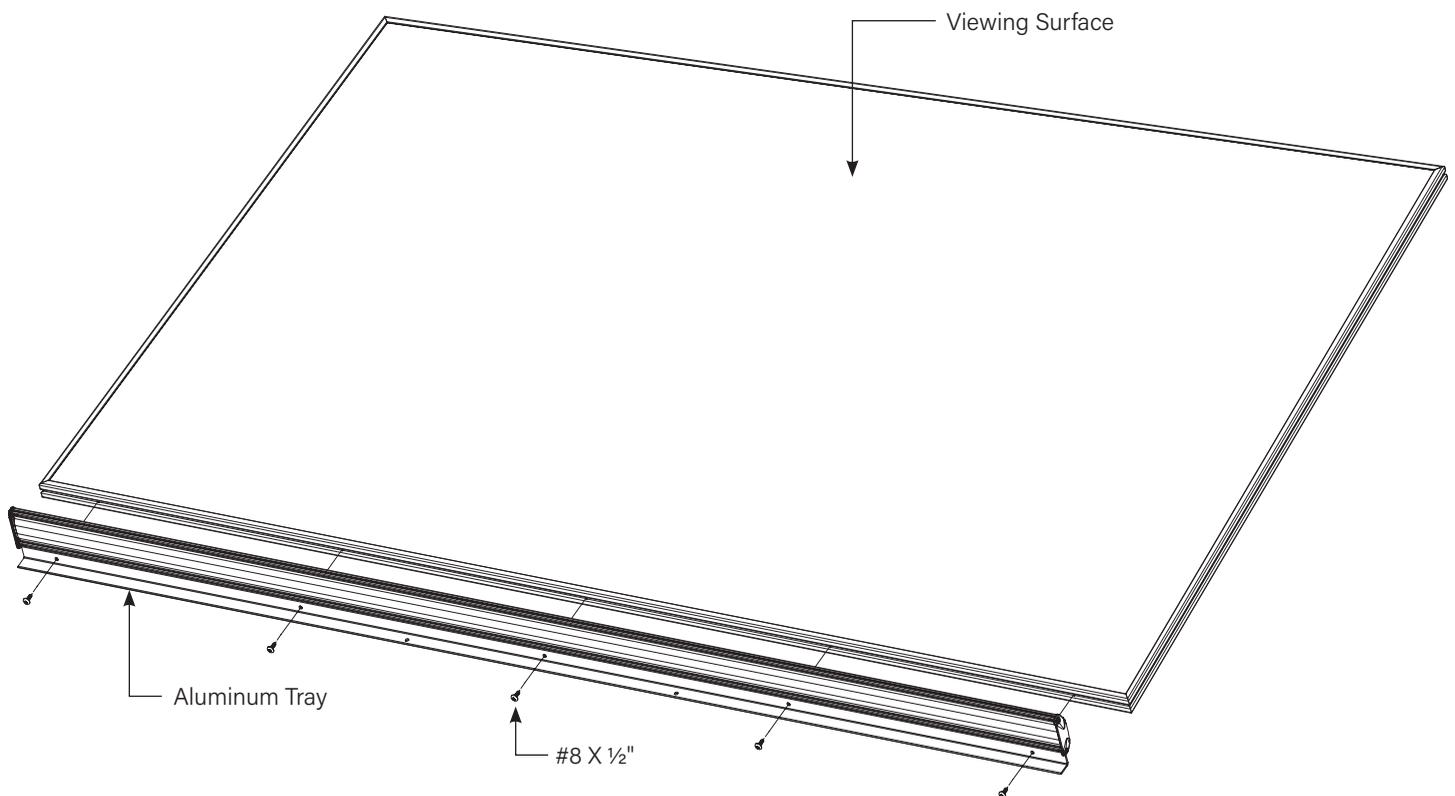

Figure 1
Center aluminum tray to the bottom of frame and attach with the provided (5) #8 x 1/2" screws (Figure 1). Insert screws through the tray into the groove.